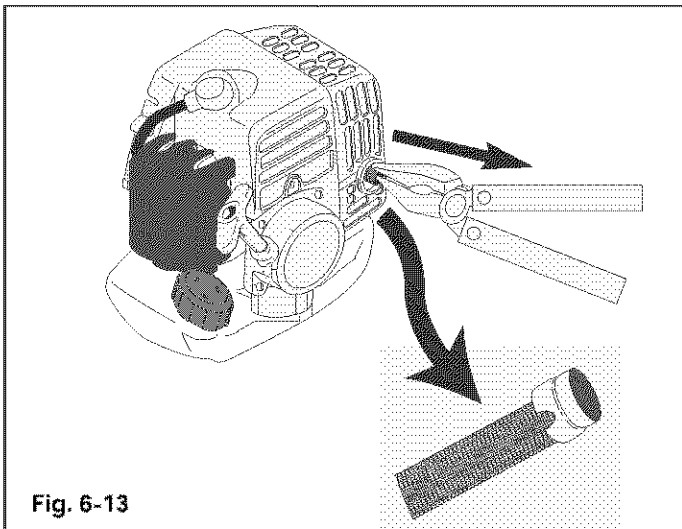

Fig. 6-13
2. Use a needle-nose pliers to grasp the collar of the spark arrester and pull it out of the muffler (Fig. 6-13).